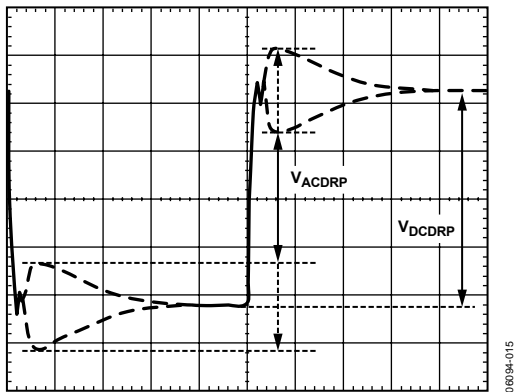

Figure 17. AC Load Line Waveform
14. Measure the output waveform (use dc offset on scope to see the waveform). Try to use a vertical scale of 100 mV/div or finer. This waveform should look similar to Figure 17.
15. Use the horizontal cursors to measure V_{ACDRP} and V_{DCDRP} as shown in Figure 17. Do not measure the undershoot or overshoot that happens immediately after this step.
- $$C_{CS(NEW)} = C_{CS(OLD)} \times \frac{V_{ACDRP}}{V_{DCDRP}} \quad (49)$$